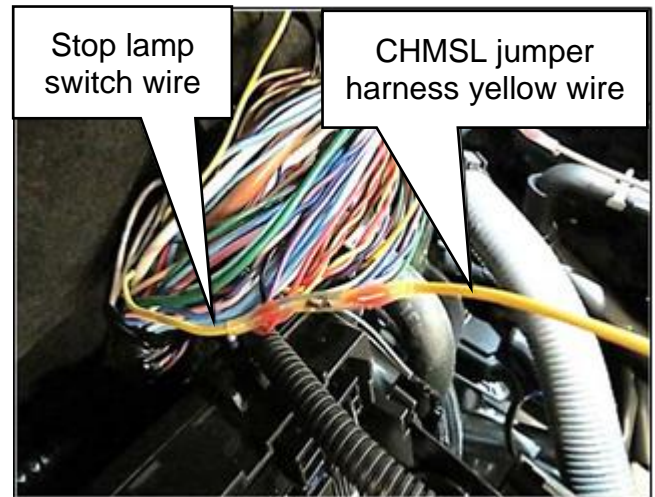

Figure 42
37. Connect the CHMSL jumper harness' yellow wire to the passenger (RH) side stop lamp switch yellow wire end using a solder sleeve connection.
- Heat the solder sleeve, using a flameless heat gun, special tool J-46538, until the solder has been fully melted into the wires, as shown in Figure 42